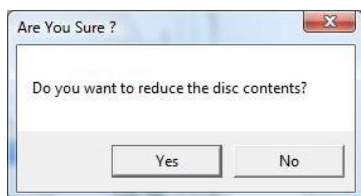

Figure 5-4
- When you start burning, a dialog box (Figure 5-4) appears.